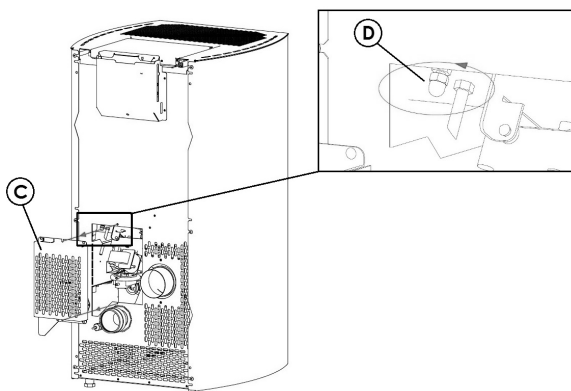

Fig. 33 - Casing removal
- Remove inspection casing "C" from the back of the stove (see **Fig. 33**).